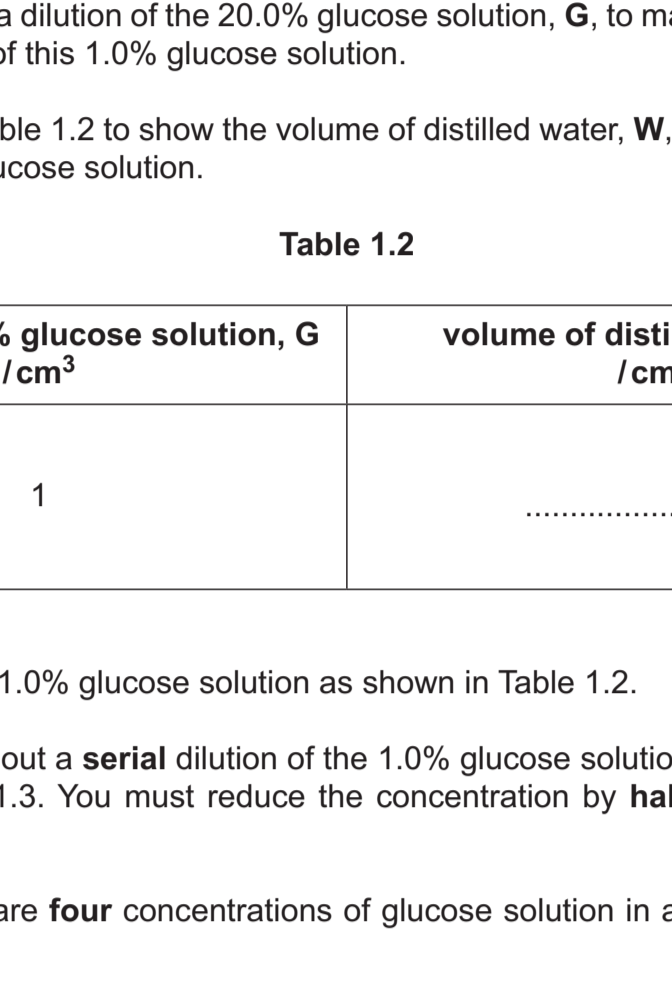

Fig. 1.2
step 6 Put the dialysis tubing containing **G** into the large test-tube and keep it in position using an elastic band as shown in Fig. 1.2.